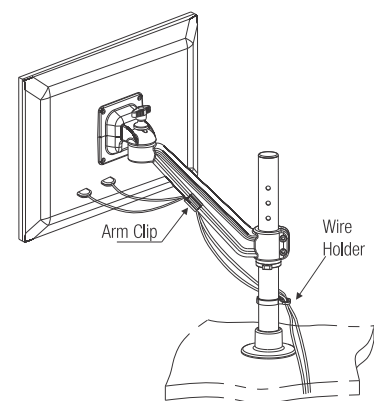

Fig. 6
6. Tighten the screws to adjust the load of the Monitor as shown in Fig. 6.
6. Pressure can be adjusted by tightening & loosening the screw as shown in Fig.6.
7. Insert the monitor cables into the arm clip and wire holder, then clip them to the diagonal arm and vertical pole respectively, as shown in Fig. 6.
6. Insert the monitor cables into the arm clip & wire holder, then clip them to the diagonal arm & vertical pole respectively, as shown in Fig. 6.
7. Insert the monitor cables into the arm clips and wire holders, then clip them to the diagonal arms and vertical pole respectively, as shown in Fig. 6.
7. Insert the monitor cables into the arm clip and wire holder, then clip them to the diagonal arm and vertical pole respectively, as shown in Fig.6.
6. Insert the Monitor cables into the Arm Clip & Wire Holder, then clip them to the Diagonal Arm & Vertical Pole respectively, as shown in Fig. 6.